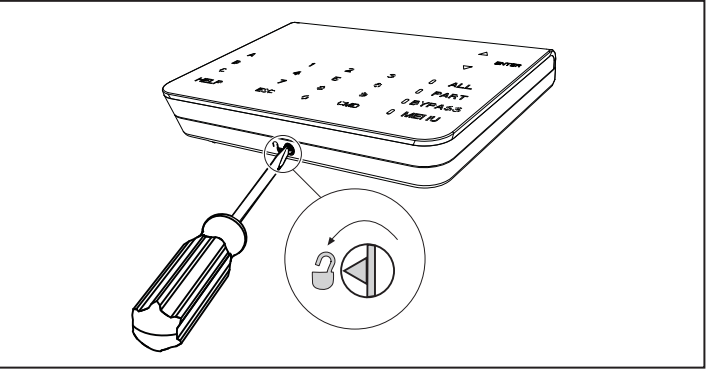

Figure 2.1: Unlocking the keypad
1. Unlock the keypad by turning the lock counter-clockwise. Refer to *Figure 2.1*.
1. Remove the keypad from the base to remove power to the keypad. Refer to *Figures 2.1* and *2.2*.